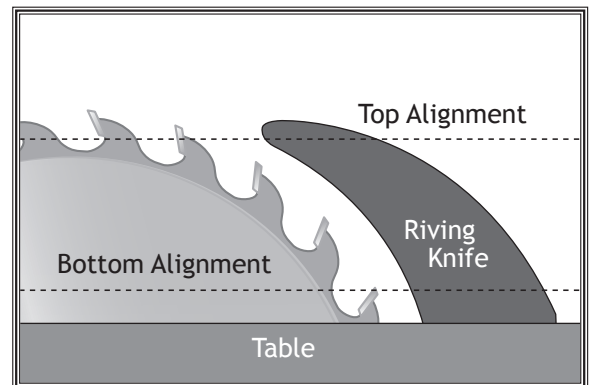
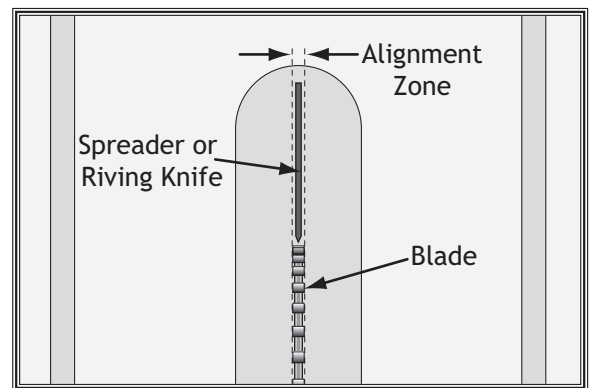

Figure 108. Example of checking top and bottom riving knife parallelism with blade.
Figure 109. Spreader/riving knife alignment zone.
3. Place straightedge against top and bottom of blade and spreader/riving knife, as shown in **Figure 108**. Spreader/riving knife should be parallel with blade at both positions and in the "Alignment Zone," as shown in **Figure 109**.